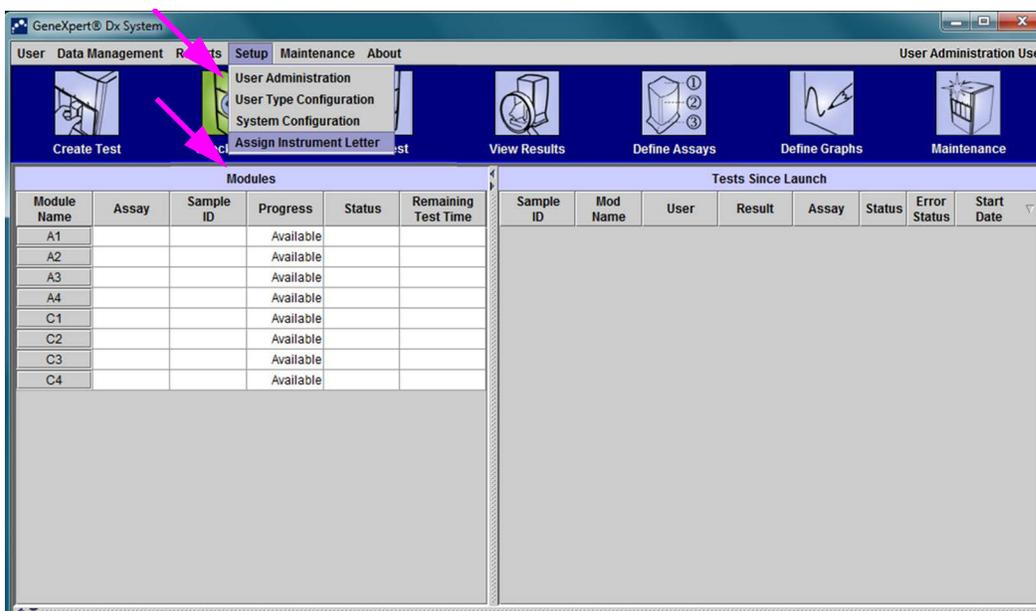

Figure 2-66. GeneXpert Dx System Window showing Setup Drop-Down Menu
- To ensure that letter assignments match the GeneXpert GX-XVI instrument, click **Setup** in the menu bar, on the GeneXpert Dx System window (see Figure 2-66), and then select **Assign Instrument Letter** from the drop-down menu. The Assign Instrument Letter dialog box is displayed (see Figure 2-67). At the same time, the green LED indicators of four modules that comprise the selected quadrant will flash.